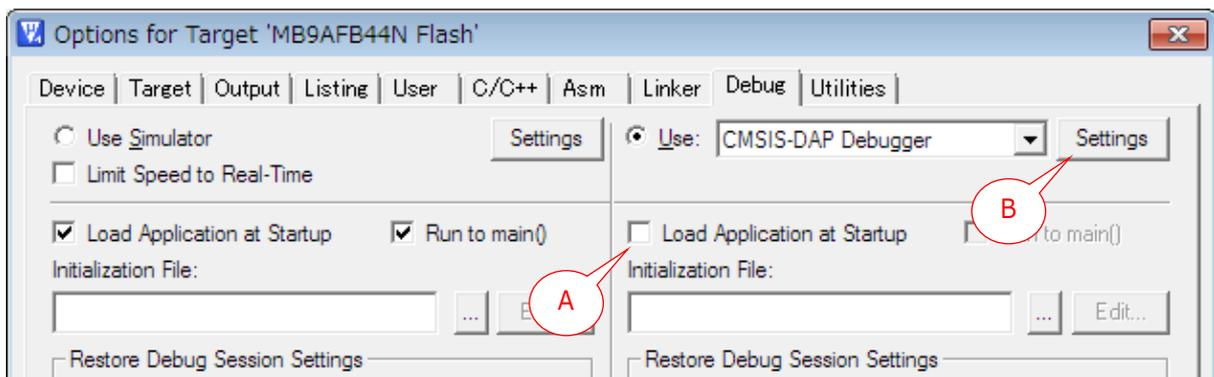

Figure 11
- Press the **Settings** "B" button as shown in Figure 11 to open the [XXXX Target Driver Setup] window. Uncheck the <Reset after Connect> and <Verify Code Download> checkboxes so as **not to perform reset immediately after the start of a debugging session**. After unchecking the checkboxes, press the **OK** button.